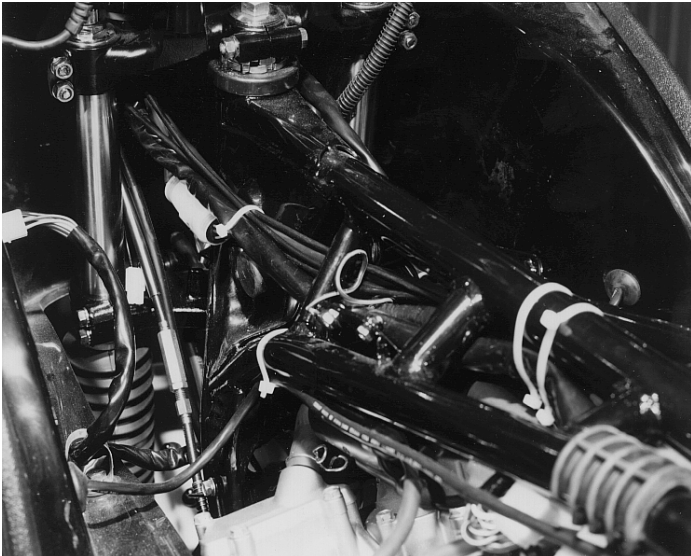

Figure 12 - Triangular Frame Assembly
5. Refer to Figure 12 and route the cables through the center of the triangular frame assembly to the area at the rear of the control unit. The cable may be routed along side existing cables and secured to them with cable ties.